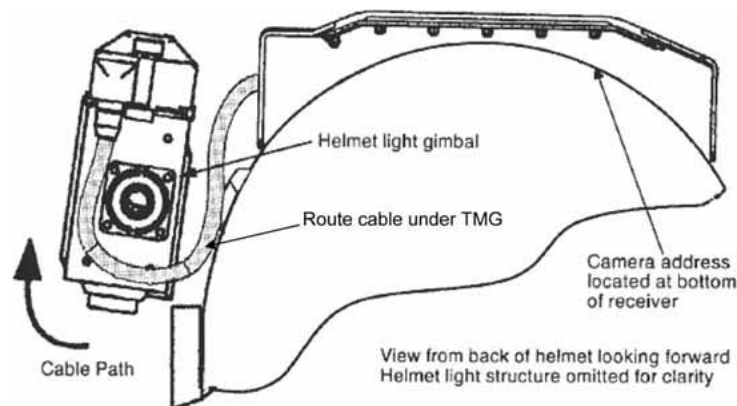

Figure 1.- ERCA Cable Routing.
- EMU 3018 (FN)
- Refer to Figure 1 ERCA Cable Routing: